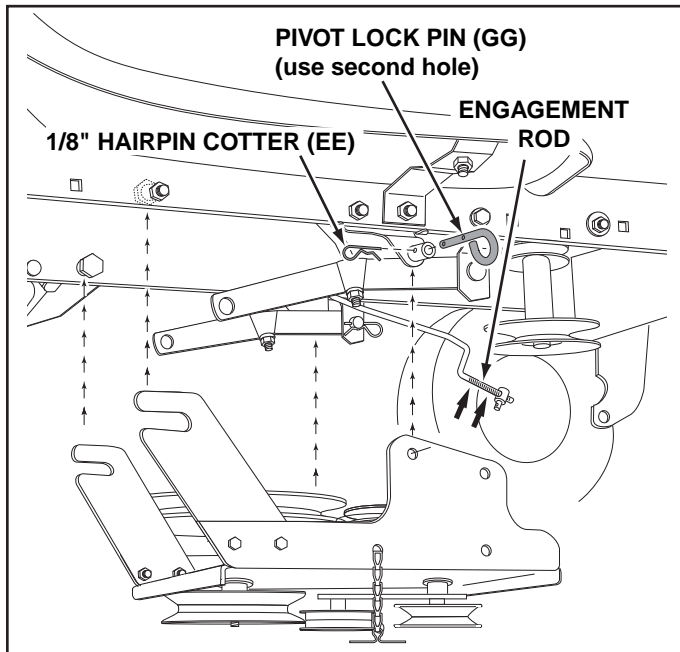

FIGURE 32 **RIGHT SIDE VIEW**
STEP 32: (SEE FIGURE 32)
- Attach the clutch/idler assembly to the tractor frame as follows. Hook the assembly's notched arms onto the two shoulder bolts you assembled to the inside of the tractor frame. Lift the front of the assembly and attach it to the R.H. and L.H. hanger brackets using two pivot lock pins (GG) and 1/8" hairpin cotters (EE).